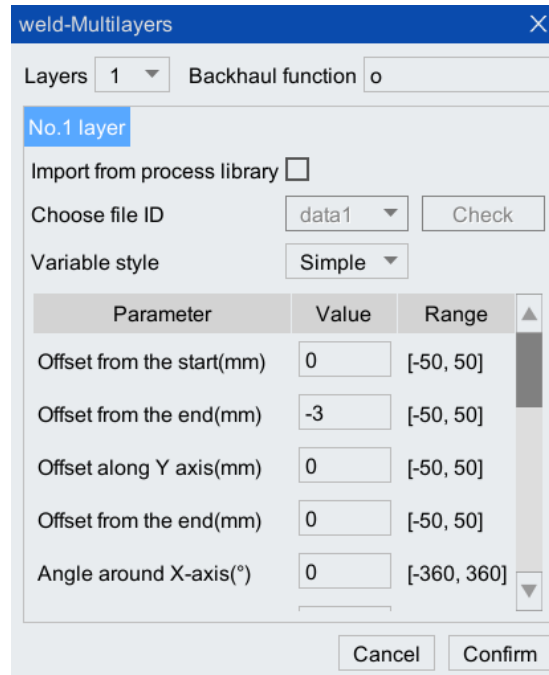

Figure 10-26 Multi-layer multi-channel instruction configuration interface
Step10. Click [Insert cmd/Function Package/weld/Welding Command/Multilayers], click [No.1 layer] in the pop-up configuration interface (as shown in Figure 10-26), and configure [Layers] as "1", [Backhaul function] is "o", [Offset distance along the Y axis] is "-3".